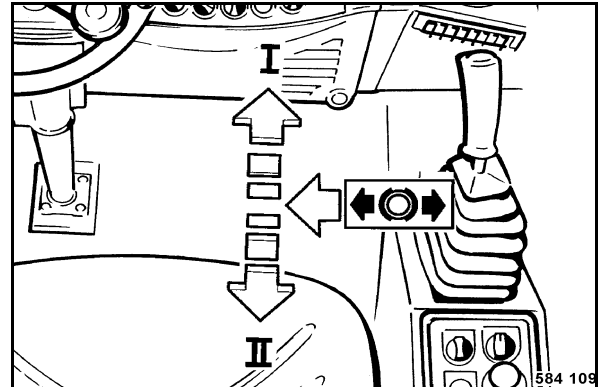

Fig. 135
- Shift the travel lever (Fig. 135) out of braking position to the left to disengage.